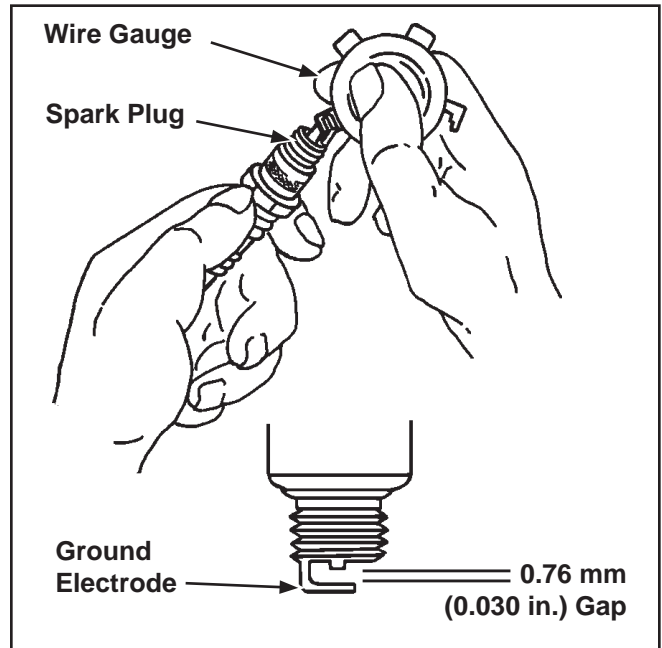

Figure 27. Servicing Spark Plug.
3. Check the gap using a wire feeler gauge. Adjust the gap to **0.76 mm (0.030 in.)** by carefully bending the ground electrode. See Figure 27.